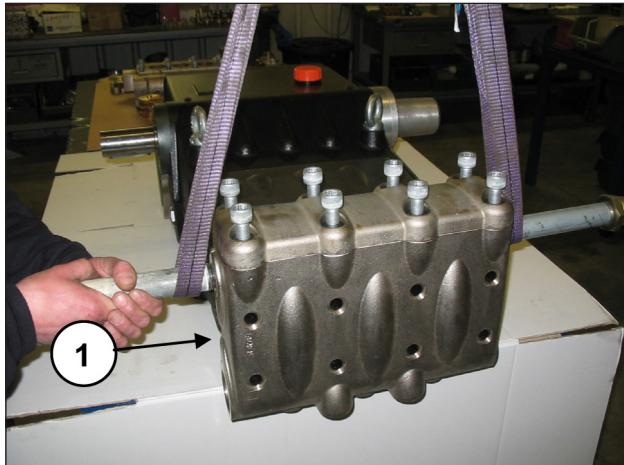
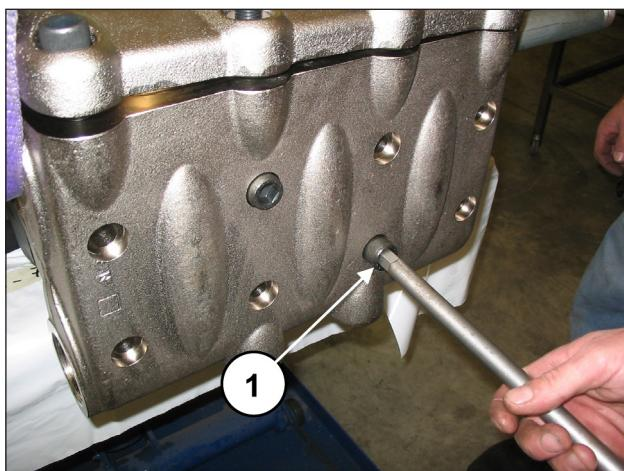

Fig. 134
Fig. 135
Assemble the pump casing head (pos. ①, Fig. 134) taking care not to hit the pistons and screw in the 8 M16x150 screws (pos. ①, Fig. 135).
**Tighten the 8 M16x150 screws starting crosswise from the 4 inner screws (see Fig. 135), to then continue with the 4 outer screws, always tightening crosswise.**